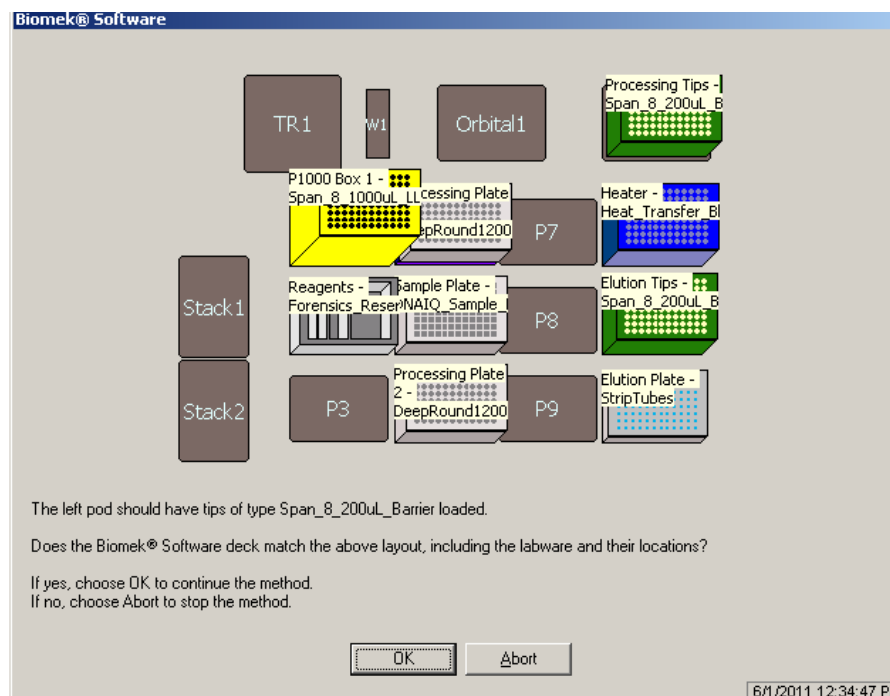

Figure 3. Deck layout for the DNA IQ NX Recovery Dispense Only method.
1.1.4.1 A prompt showing the deck layout will appear (shown in Figure 3).